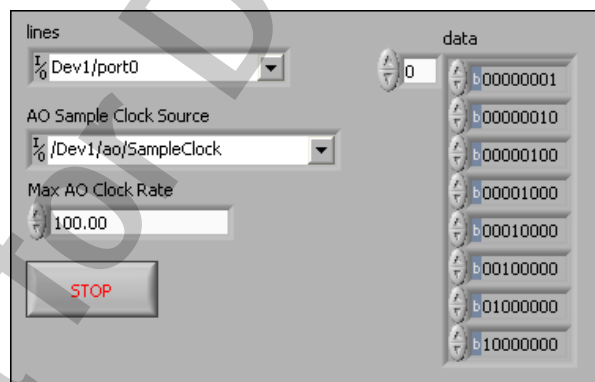

Figure 5-7. Correlated Digital Output VI Front Panel
3. Configure and arrange the front panel similar to Figure 5-7.
- Set the eight elements in the data numeric array to 00000001, 00000010, 00000100, 00001000, 00010000, 00100000, 01000000, and 10000000, as shown in Figure 5-7.